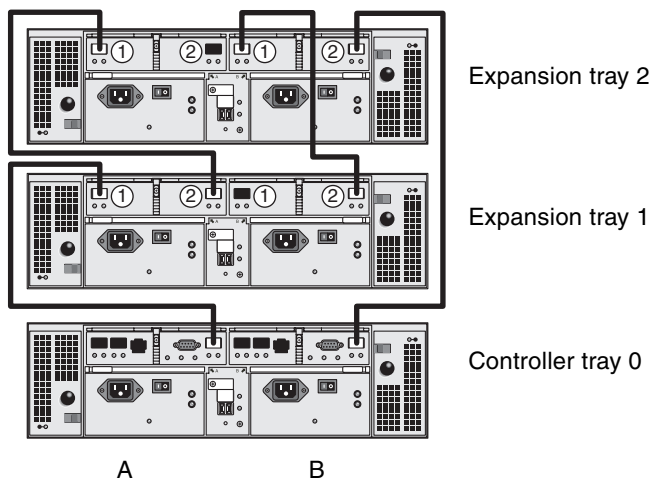

FIGURE 2-39 1x3 Array Configuration Cable Interconnection
3. Connect one FC cable between the A side expansion port of controller tray 0 and the A side port 1 of expansion tray 1 (FIGURE 2-39).
4. Connect one FC cable between the A side port 2 of expansion tray 1 and the A side port 1 of expansion tray 2 (FIGURE 2-39).
5. Connect one FC cable between the B side expansion port of controller tray 0 and the B side port 2 of expansion tray 2 (FIGURE 2-39).
6. Connect one FC cable between the B side port 1 of expansion tray 2 and the B side port 2 of expansion tray 1 (FIGURE 2-39).